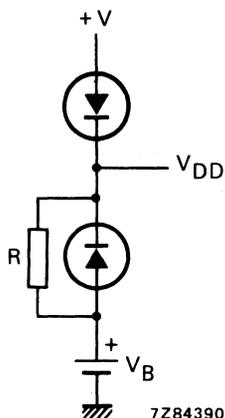

Fig. 6 Standby battery circuit.
Non-volatile information storage is allowed due to very low power dissipation when the memory is powered by a small standby battery. Figure 6 shows an optional standby power supply circuit for making a LOCMOS memory 'non-volatile'. When the usual power fails, a battery is used to sustain operation or maintain stored information. While normal power supply voltage is present, the battery is trickle-charged through a resistor (R) which sets the charging rate. In Fig. 6 the sustaining voltage is  $V_B$ , and +V is the ordinary voltage from a power supply.  $V_{DD}$  is connected to the power supply pin of the memory. Low-leakage diodes are recommended to conserve battery power.